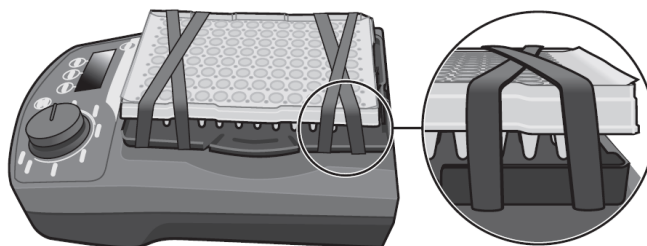

Figure 9 Elastic band positions for 96-well plates
- For 96-well plates—Fasten both ends of the plate to the attachment using elastic bands (see Figure 9).